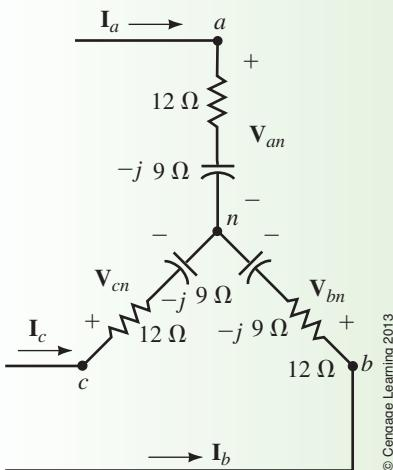

FIGURE 24-12
- For Figure 24-12, if $\mathbf{I}_a = 8.25 \text{ A}\angle 35^\circ$, determine \mathbf{V}_{an} and \mathbf{V}_{ab} .